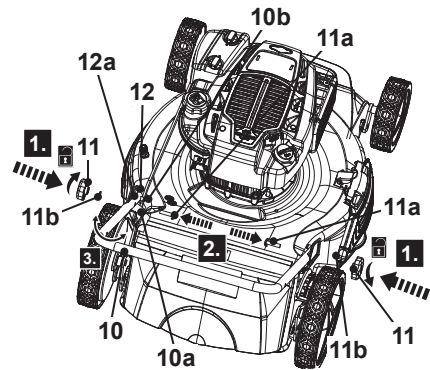

Fig. 11
2. Unscrew the two locking knobs (11) anti-clockwise from the handle brackets (12) and the lower handle bar (10) (Fig.11, step 1), then take off the locking knobs (11), the washer (11b) and the mounting bolts (11a) afterwards (Fig. 11, step 2).
3. Swing the handle assembly (10, 29) to align the desired mounting holes (10a, 12a) of the lower handle bar (10) with the two handle brackets (12) and make sure that the spigot (12b) of the handle bracket (12) engaged in the location hole (10b) of the lower handle bar (10) on both sides (Fig. 11, step 3).